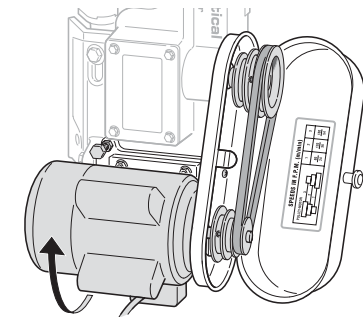

FIGURE 11.
1. Open the pulley guard cover. See Figure 11.